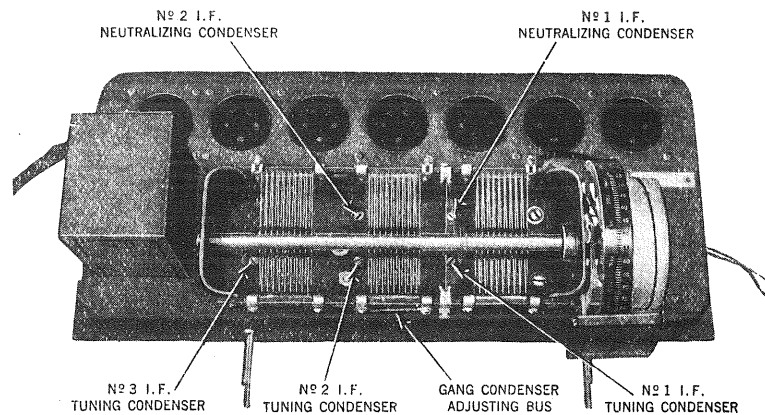

Figure 14—Condenser adjusting screws for I.F. transformers
- (f) Adjust the tuning condensers successively on the first, second and third I.F. transformers (Figure 14), for maximum signal in the loudspeaker and maximum reading on the milliammeter. If pointer should go off milliammeter scale reduce the volume control. After making one adjustment on the transformers it is a good plan to repeat, as slight changes may have occurred in tuning the other circuits. No signal, or a loud howl, indicates neutralizing condensers are out of adjustment and they should be readjusted. If meter swings abruptly off scale it is usually a good indication that the I.F. stages are in an oscillating condition. No further tuning should be attempted until the I.F. stages are correctly neutralized. A maximum reading, without the last mentioned condition, indicates correct tuning of the intermediate stages.